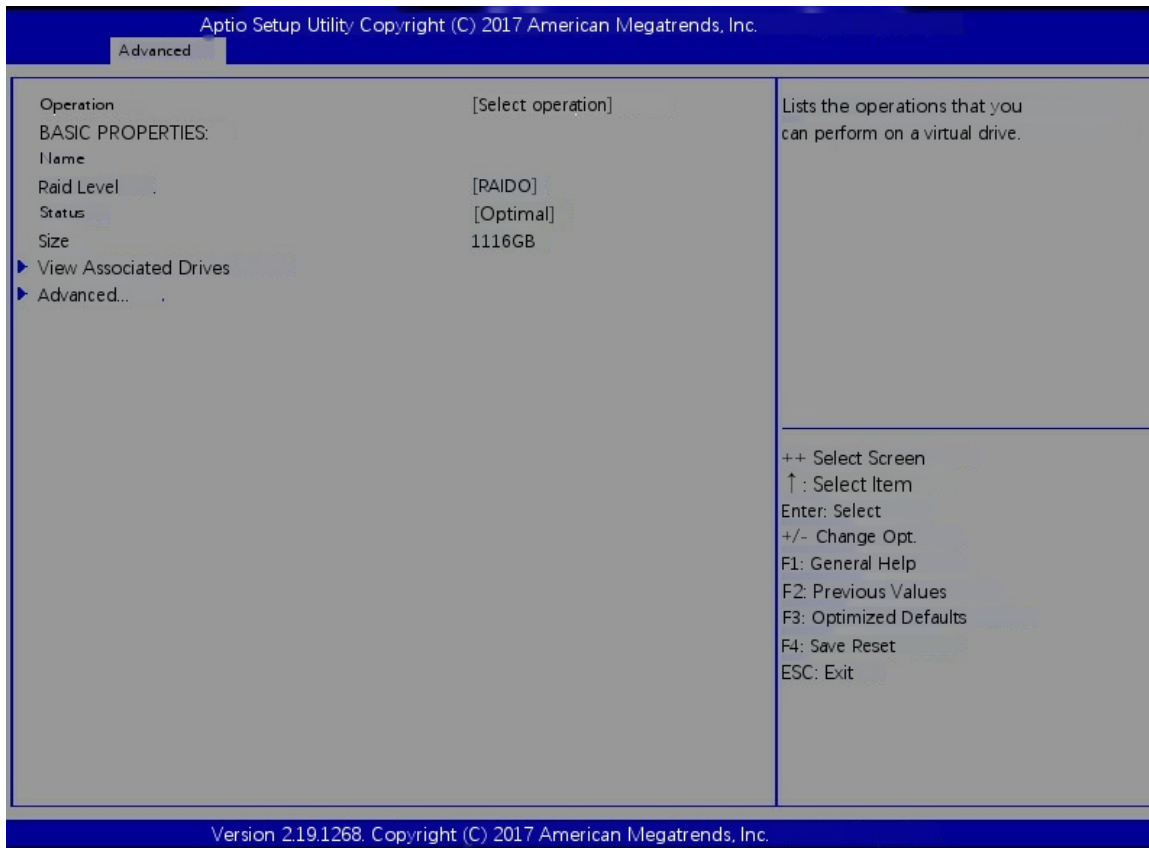

Figure 6-18
- l) Enter the interface shown in Figure 6-18, select view associated drives, and press enter to view the detailed information of the raid (including raid name, level, disk information, etc.).